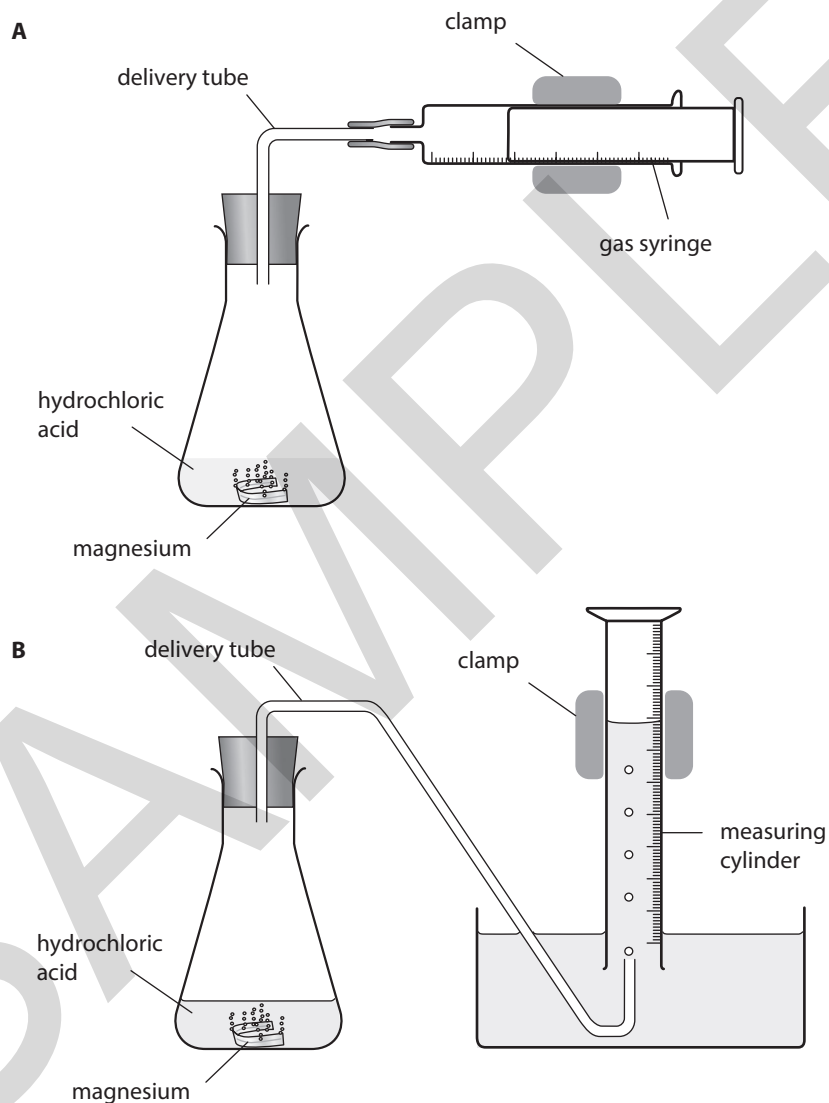

Figure 1.2
- 5 Depending on which gas collecting system you are going to use, set up your apparatus as shown in Figure 1.2.